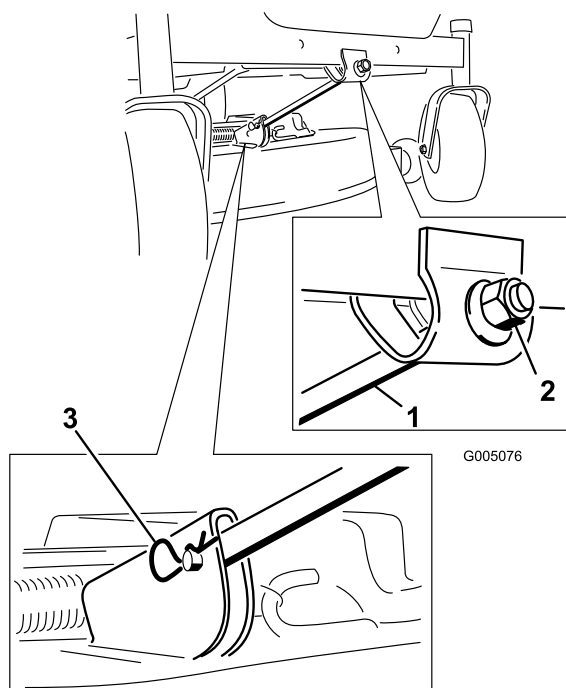

Figure 42
- Remove the hairpin cotter and clevis pin from the front support rod (Figure 42). Carefully lower the front of the mower deck to the ground.
6. Attach the front support rod to the mower deck with the clevis pin and hairpin cotter (Figure 42).